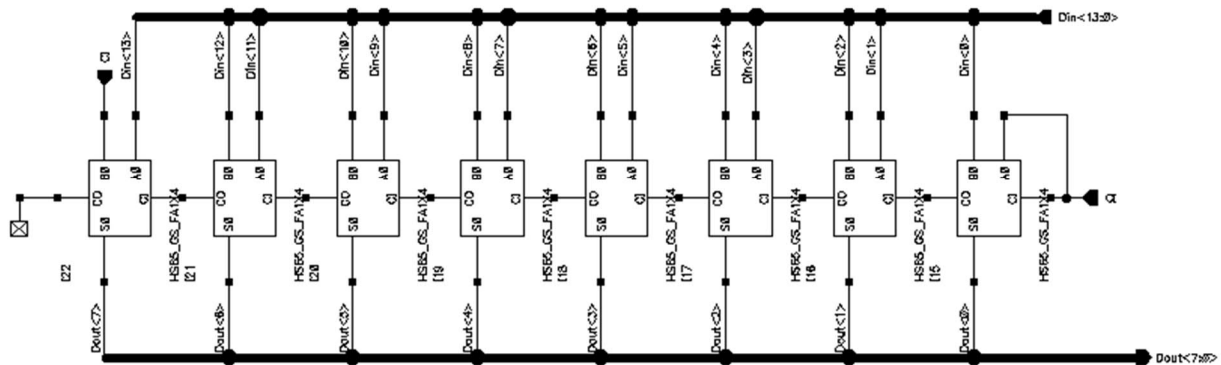

Figure 15. The full adder (digital correction unit).
- a. Open the full adder **FullAdder** schematic, which implements the digital correction unit. **FullAdder** has been designed using the standard cell **HS65_GS_FA1X4** from **CORE65GPSVT**, as shown in Figure 15.